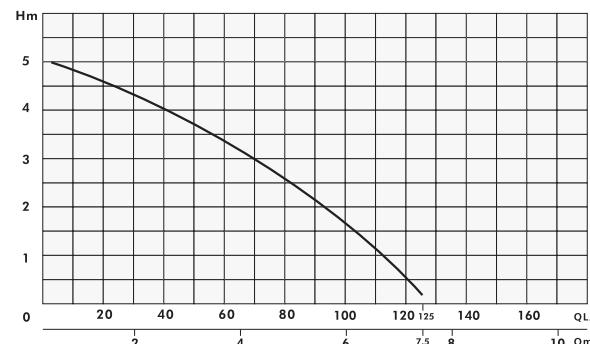

Fig.1
2. Slide the handle for carrying and suspending the pump into the grooves as shown in Fig. 1 to secure it in place (it will click in), otherwise the pump suspended by the handle could fall into the pumped liquid.